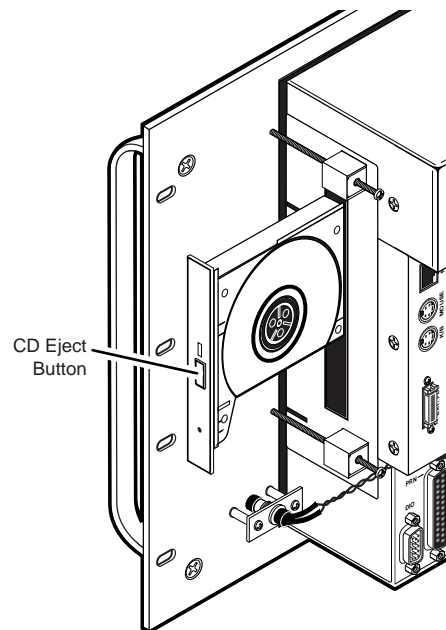

Figure 2-11 — Eject button location
5. On the rear of the FPC, press the eject button on the CD-ROM drive (figure 2-11). The drive's LED flashes and the CD tray partially ejects.